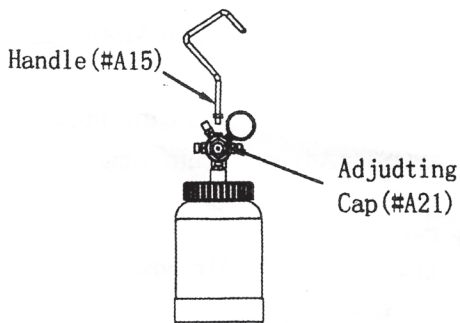

Figure2—Connecting the Handle
Step 2: Connect the other end of the black FLUID HOSE (#38) to the fluid outlet located on the bottom of the Spray Gun HEAD(#B5) and secure using the hose wrench as shown in Figure 2.